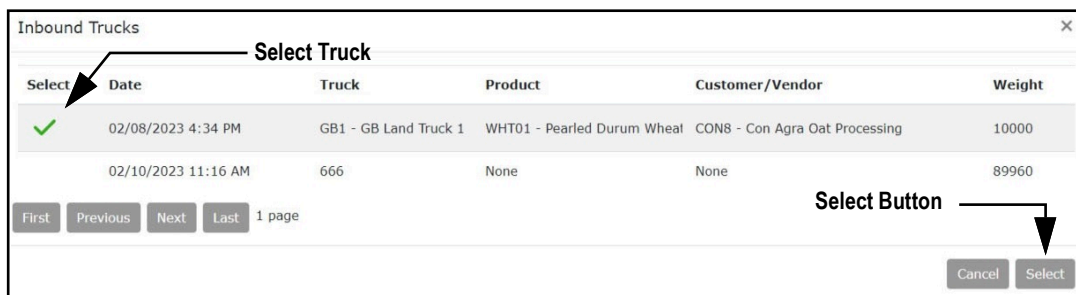

Figure 9-10. Inbound Trucks Window
- The Inbound Trucks window displays (see Figure 9-10 on page 136).